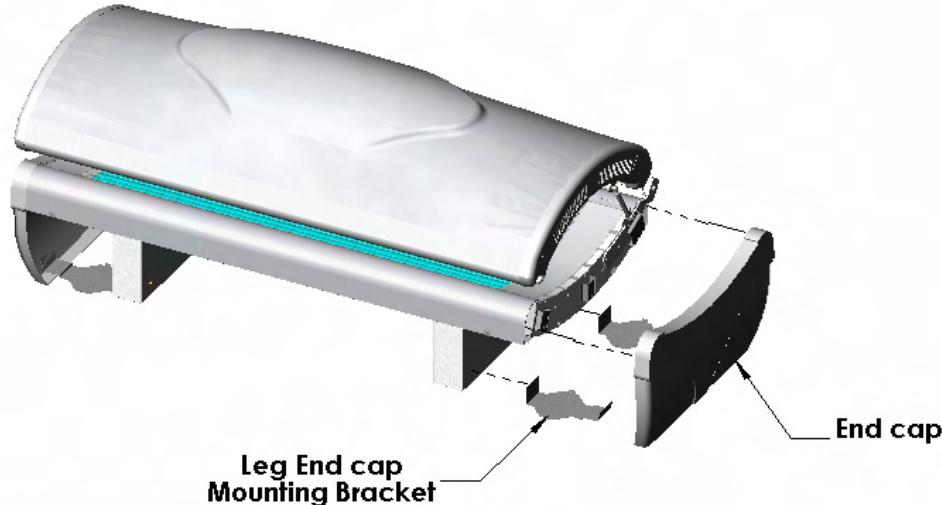

Fig. 6
- STEP 8. Attach the two (2) leg end cap mounting brackets to the bottom outside section of each leg using the 1/4"-20x7/8" bolts provided. (Fig 6)
- STEP 9. Position the end caps on either side of the bench. Attach using the small 1/4 turn fasteners provided. (Fig. 6)